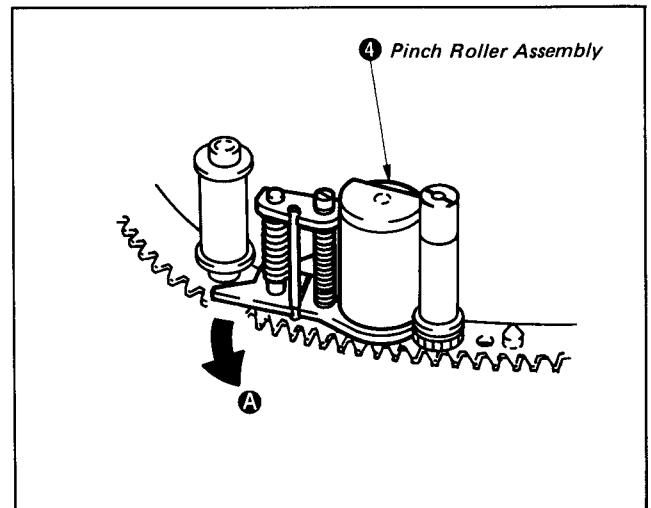

Fig. 1-19
- 4) Rotate the pinch roller assembly ④ in the arrow A direction. (See Fig. 1-19.)